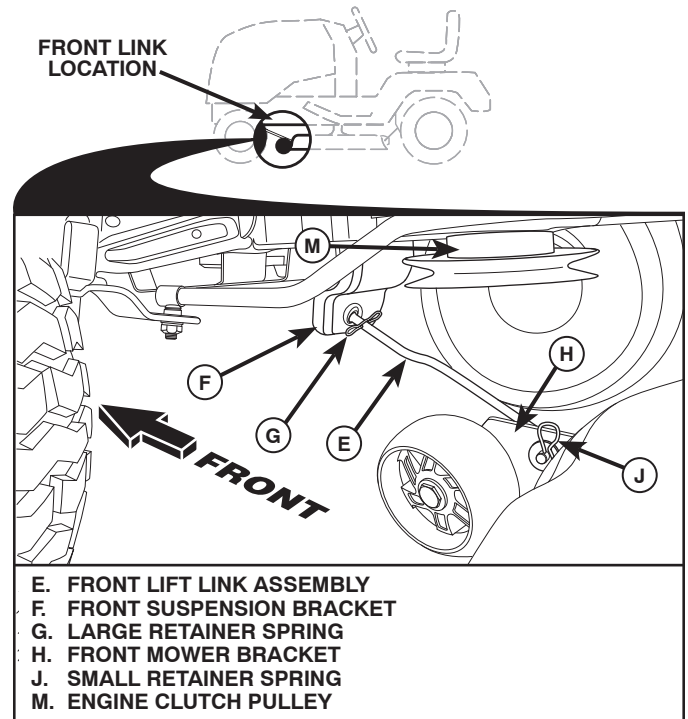

Fig. 32
8 ATTACH FRONT LINK (E) (See Fig. 32)
- From front of tractor, insert rod end of front link (E) through front hole in tractor front suspension bracket (F).
- Move to left side of mower and insert large retainer spring (G) through hole in front link (E) behind front suspension bracket (F).
- Insert other end of link (E) into hole in front mower bracket (H) and secure with washer and small retainer spring (J).